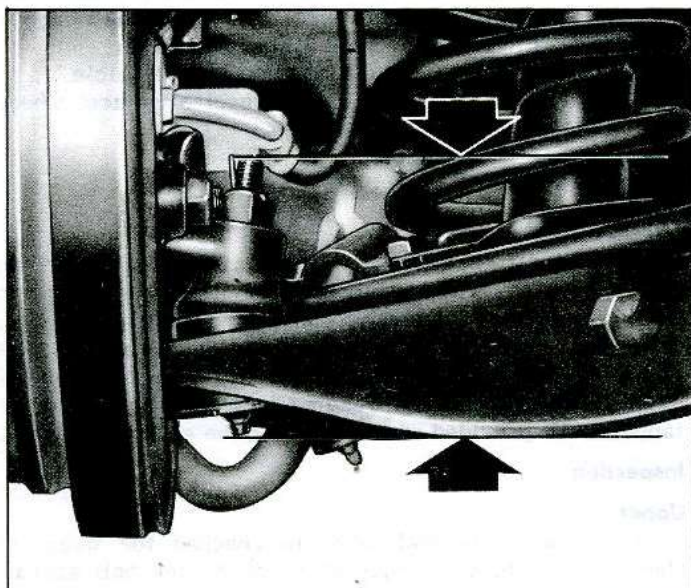

Fig. 3-11—Checking Lower Spherical Joint
2. With outside micrometer or caliper, measure distance from tip of lubrication fitting to upper surface of ball stud (fig. 3-11) and record the dimensions for each side.